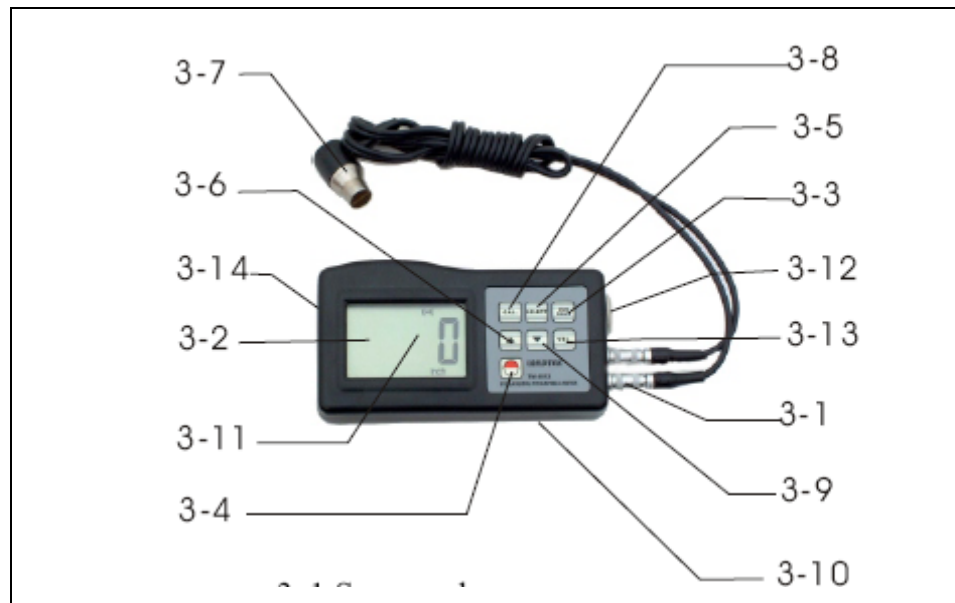

Figure 1 Overview – Front, Top and Bottom
- Press the power key 3-4 to turn on the unit.
- Press the mm/inch key 3-3 to select the right measurement unit.
- Press the Sensor 3-7 onto the material surface to measure on the premise that the material code selected is right. Be sure that coupling is well (see Fig. 1) and the symbol is on. The reading on display is the measurement value.
Fig. 1 using coupling grease